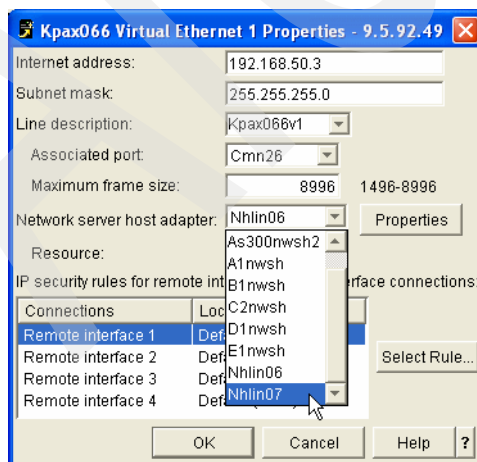

Figure 9-70 Redeploying a Virtual Ethernet LAN to a different target HBA - 2
6. Select the Virtual Ethernet LAN to be redeployed and click the **Properties** button. You see the panel shown in Figure 9-70.